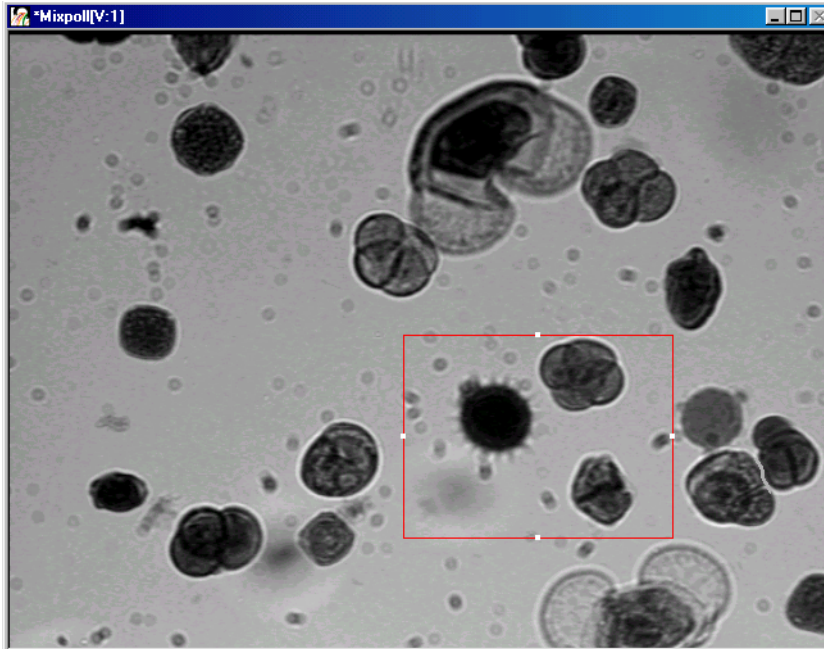

Figure 24: The Image Mixpoll
This example shows how to find all the blobs inside the active ROI in the image Mixpoll, shown in Figure 24.
1. Set the input image. Open a Blob Analysis tool (if one is not already open). Click on the image Mixpoll in the viewport in the main application; it becomes the active viewport and is denoted with an asterisk, as shown in Figure 24. Now, click **Input Image** in the Blob Analysis tool main dialog box.